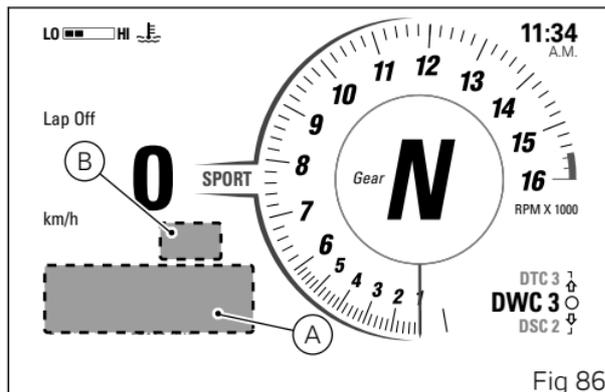

Fig 86
As the set service thresholds are almost reached, every time the motorcycle is switched on, the instrument panel activates the relevant grey indications for 5 seconds, in large mode (A, Fig 86) in the Track and Road Info Modes, showing the distance or days remaining: for "Oil Service" (D) and "Desmo Service" (E) it activates when 1000 km (621 miles) remain, for "Annual Service" (F) when 30 days remain.
Once the service threshold has been reached and each time the instrument panel is turned on, the corresponding amber warning is activated. In Track and Road Info Modes for the first 5 seconds it is displayed in large mode (A, Fig 86), then it is displayed in small mode (B, Fig 86). Amber yellow service warning is displayed until reset by the Ducati authorised service centre, during maintenance.